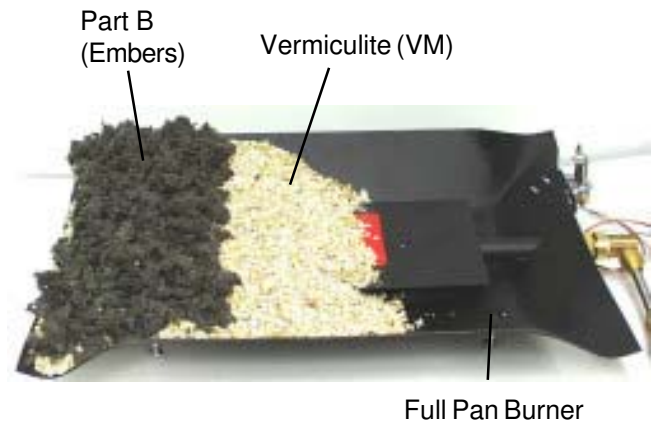

Figure 5
1. Fill the full pan burner pan with **vermiculite**. Vermiculite level should be level with the sides of the burner. Burner should be completely full and level. (Fig. 5)
3. **Part B Embers** (rockwool) are placed over the vermiculite to simulate glowing embers. For best results pinch off pieces of the Part B material the size of a dime and feather it out. Place as much as desired over the area the gas comes through. (See Figure 5.)